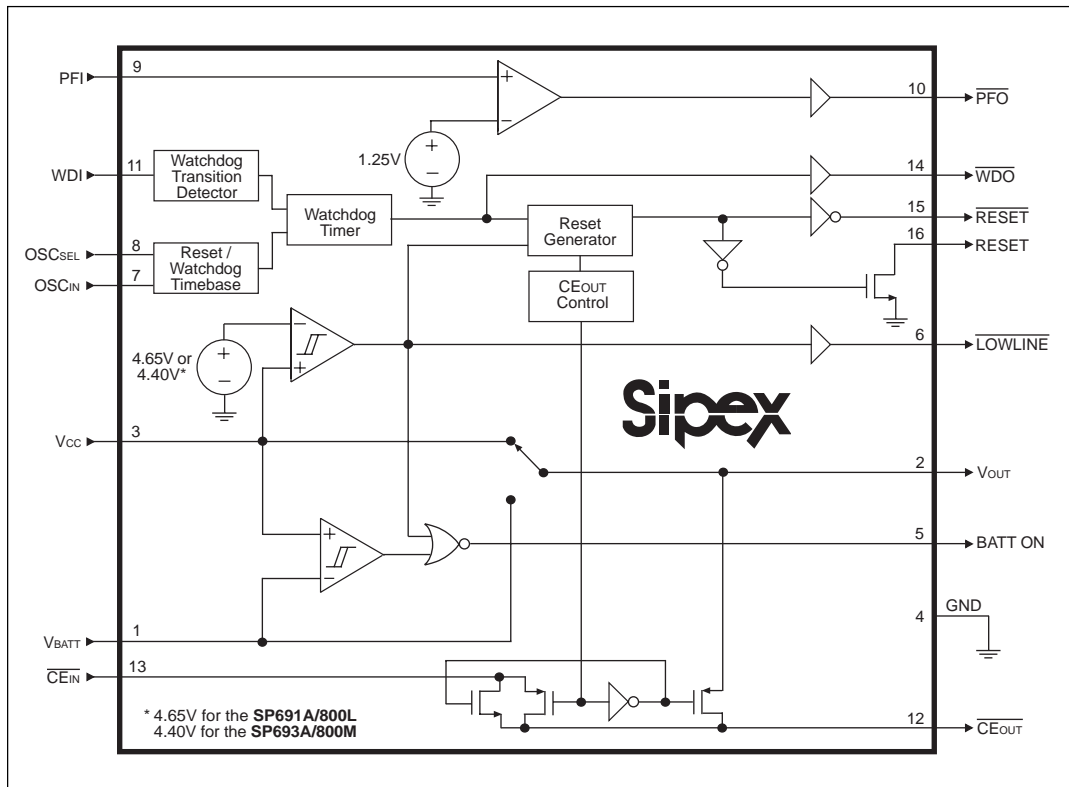

Figure 16. Internal Block Diagram of the SP691A/693A/800L/800M
The **SP691A/693A/800L/800M** devices provide internal gating of chip-enable (CE) signals, to prevent erroneous data from corrupting the CMOS RAM in the event of a power failure. During normal operation, the CE gate is enabled and passes all CE transitions. When reset is asserted, this path becomes disabled, preventing erroneous data from corrupting the CMOS RAM. The **SP691A/693A/800L/800M** devices use a series transmission gate from CE_{IN} to CE_{OUT} . Refer to *Figure 16*.
$\overline{LOWLINE}$ is the buffered output pin of the reset threshold comparator. Refer to Figure 16. $\overline{LOWLINE}$ typically sinks 3.2mA at 0.1V. For normal operation where V_{CC} is above the reset threshold, $\overline{LOWLINE}$ is pulled to V_{OUT} .